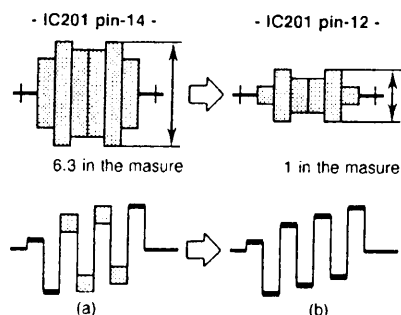

Fig 4.
- 7: Adjust the DL Phase transformer so that the waveform changes from (a) to (b) shown in fig. 4.